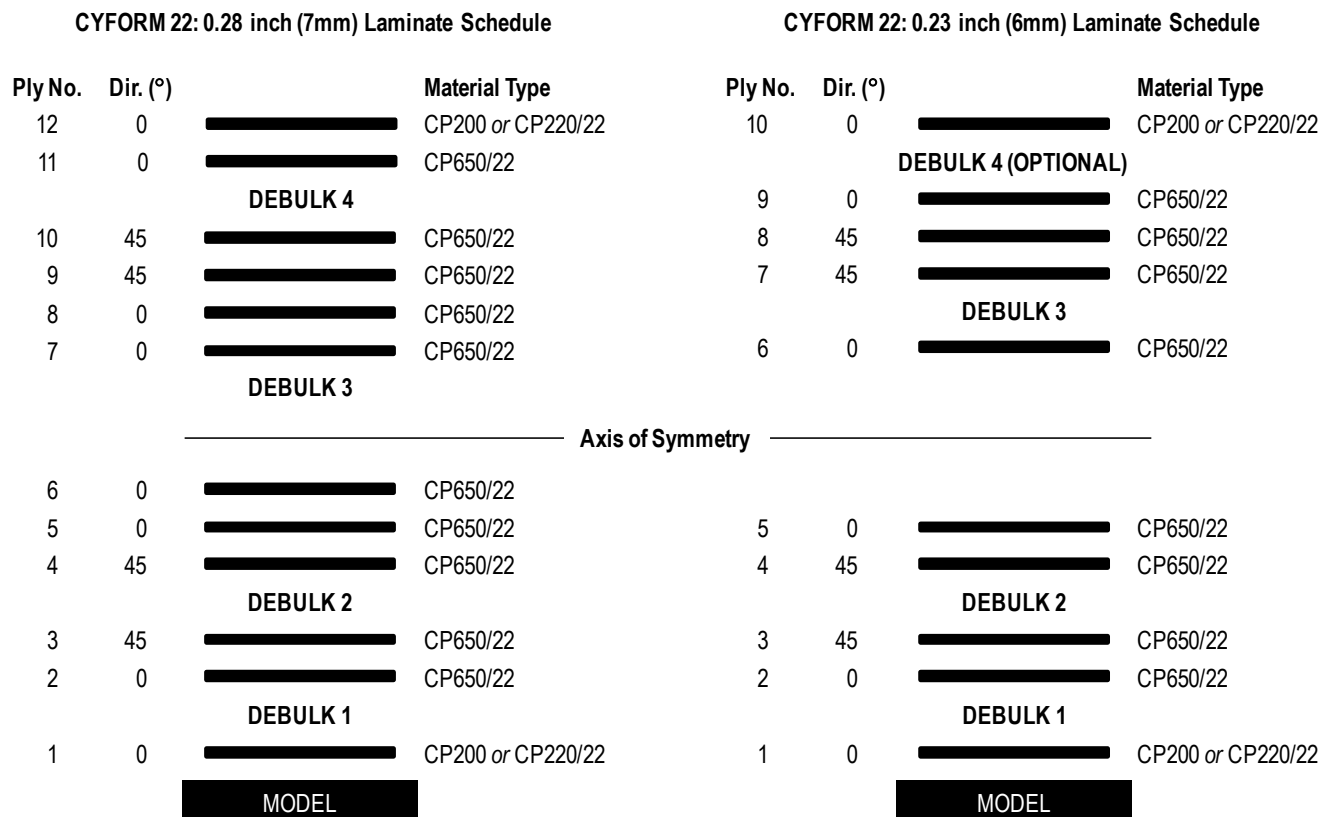

Figure 1 | Suggested Carbon Laminate Schedules
- Materials should be laid up in accordance with the laminate schedules in Figure 1 and Figure 2